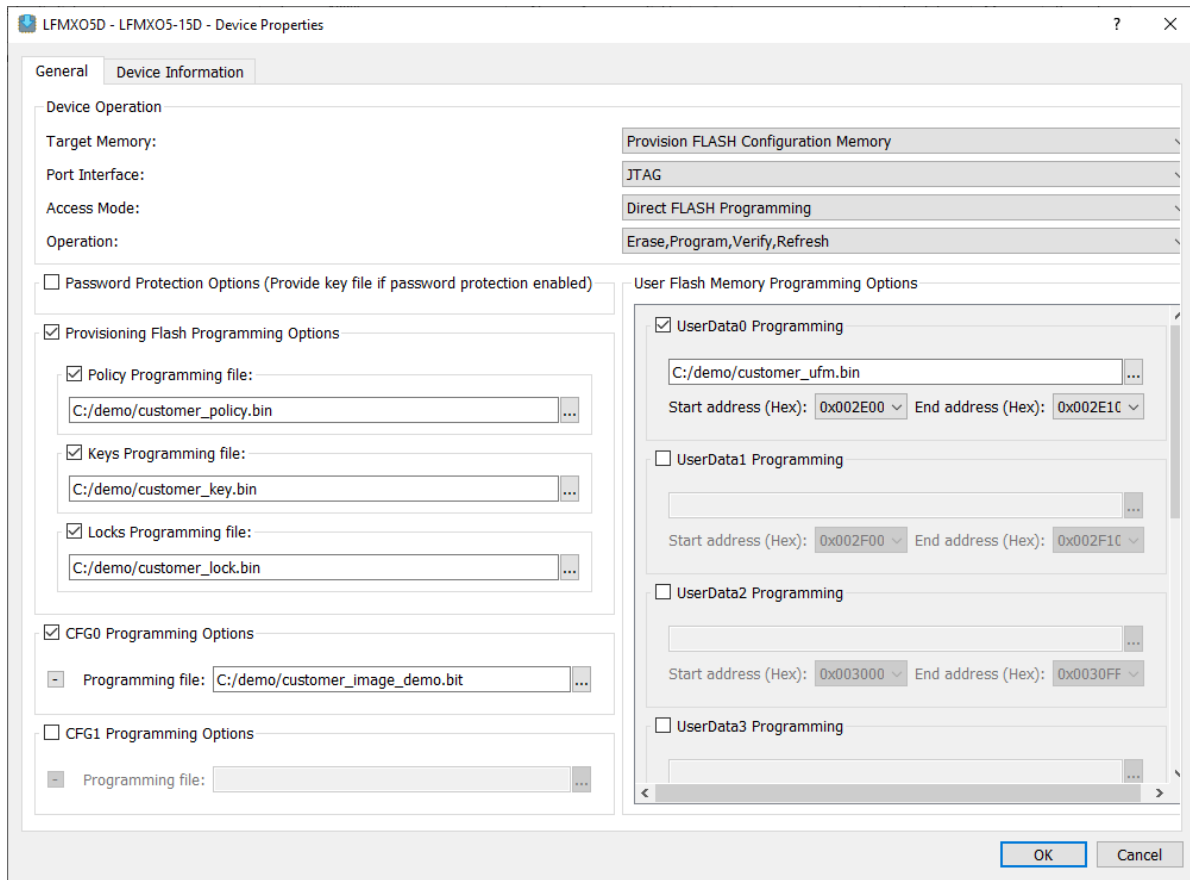

Figure 3.6. Configure Programmer options for device provisioning
10. After the user configures all the options shown in Figure 3.6, click the **OK** button to close the Device Properties window.